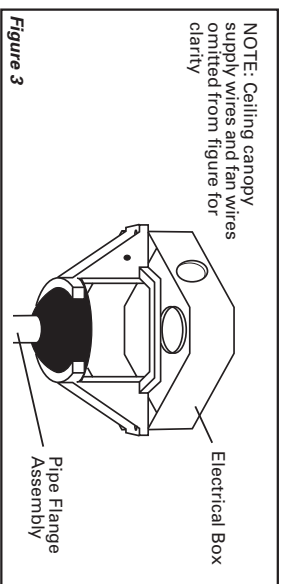

Figure 3
- Carefully lift the fan and seat the pipe flange and ball assembly on the hanger bracket that was just attached to the electrical box. Be sure the notch on the side of the ball is lined up with tab on the hanger bracket. (Figure 3)